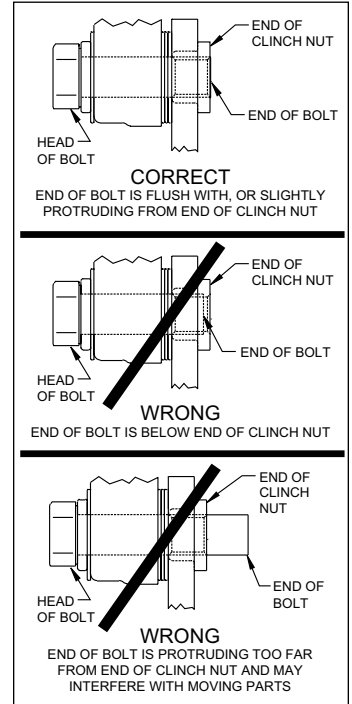

Figure 4. Clinch Nut Engagement Diagram
CAUTION: All mounting bolts must fully engage clinch nuts. Be sure to check that all bolts are either flush or protruding through flanged side of clinch nut after shimming, Figure 4.
- NOTE:** The end of each bolt must be flush with or slightly protruding from the head of the clinch nut, as shown in Figure 4. If necessary place spare shims (2) between washer (19) and caliper mounting ear to achieve the proper clinch nut engagement. Once the caliper alignment and clinch nut engagement are correct, remove the caliper mounting bolts, washers and caliper.
- Remove the two pad retaining pins from the caliper (18) by carefully popping out the pin retaining clips and sliding out the pins. Insert the brake pads (21) into the caliper from the bottom,